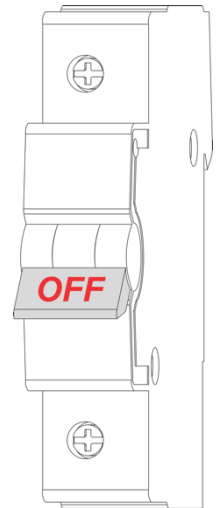
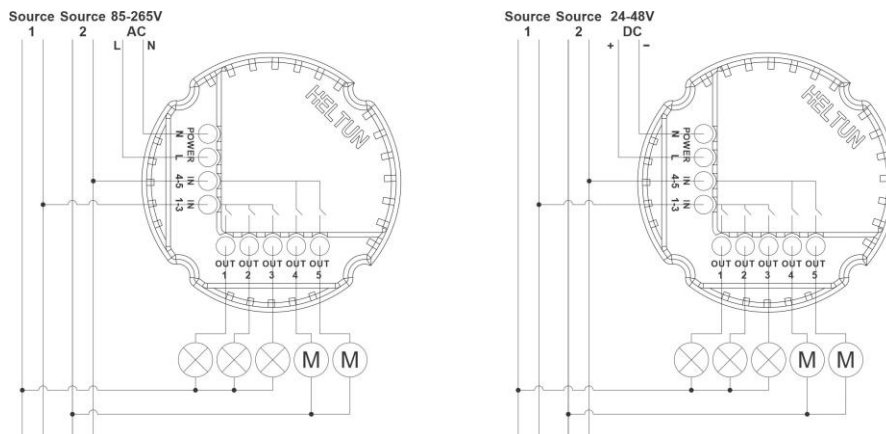

Figure 1:
Figure 2: Connection Diagrams
3. **FIRST ENSURE THE POWER IS OFF** at the main circuit breaker (Fig. 1), and then test the wires with a probe or multimeter to verify. Insert the power wires to the HE-TPS03 "POWER" terminal by inserting a small Phillips-head screwdriver in the slot beneath each terminal and unscrew to open. Follow *Fig. 2: Connection Diagram* and instructions below:
- **Power wires:** for AC power (85-265VAC) connect Line & Neutral wires to L & N terminals labeled "POWER" (Fig 2. left diagram). For DC power (24-48VDC) connect "+" wire to terminal N and "-" wire to terminal L (Fig 2. right diagram).